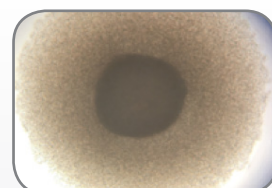

Figure 1. EB from hESC HS181 cultured on Biolaminin 521 LN (LN521), 24 h post-seeding. The EB is surrounded by unaggregated cells. 5x magnification.
- After 24-48 h, one EB/well should be visible. The EBs may be surrounded by unaggregated single cells (Figure 1.)